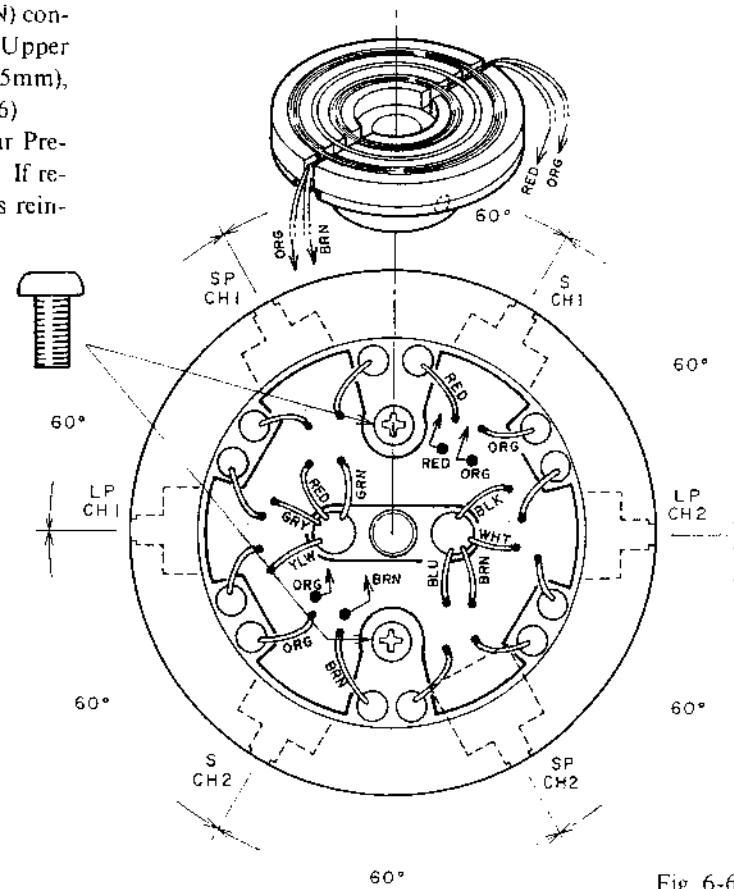

Fig. 6-6
8) Unsolder the four wires (ORG x 2, RED, BRN) connected between the Rotary Coil and the Upper Drum, and unscrew the hexagon screw (1.5mm), then pull out the Rotary Coil. (Refer to Fig. 6-6)
- 9) Unsolder eight wires from lower rotary coil (BLK, WHT, BRN, BLU, YLW, GRY, RED, GRN) (Refer to Fig. 6-6)